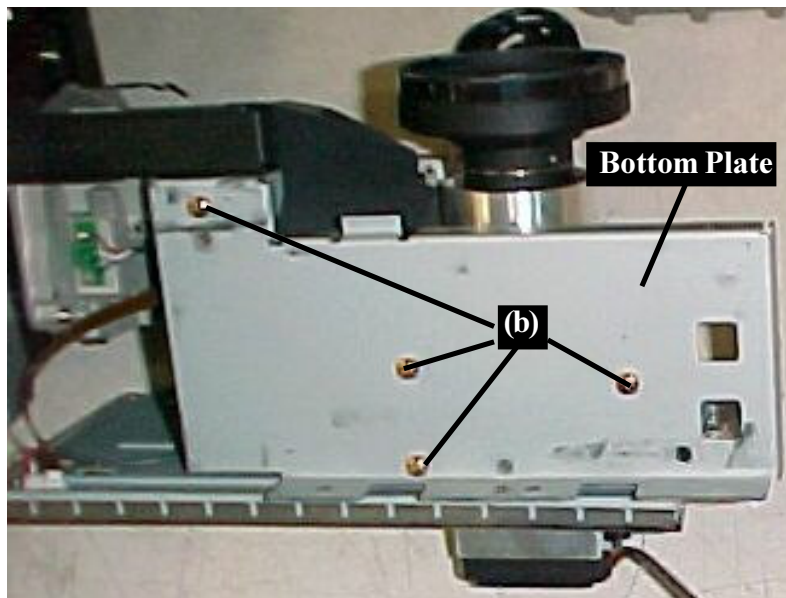

Figure 3-5: Bottom Plate Removal
- Bottom plate removal (*Figure 3-5*).